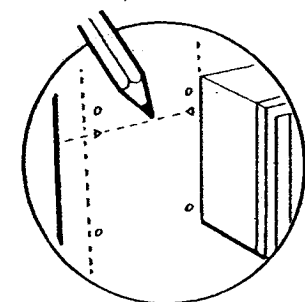

Fig. 34
4. Using the previously marked flue hole centre and the two marks made at the triangular cutouts of the template, mark the horizontal centre line for the flue assembly (Fig. 34).
5. Extend this line either left or right as required, to the corner of the room (Fig. 34).